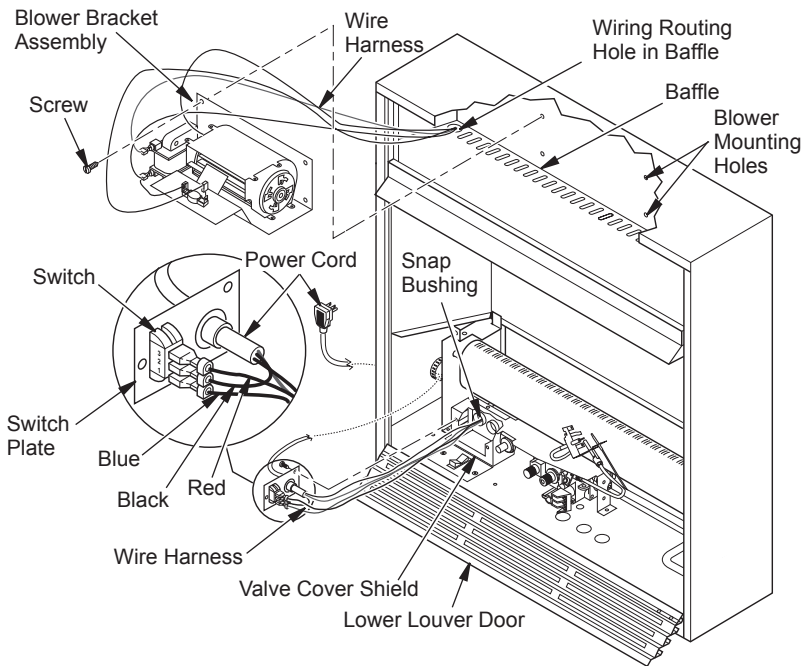
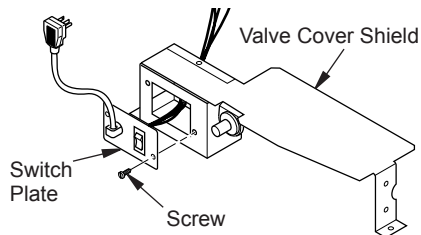

Figure 16 - Installing Blower Bracket Assembly
Figure 18 - Installing Switch Plate to Valve Cover Shield
3. Note the wire locations on back of AUTO/OFF/ON switch. The terminals on back of switch are numbered 1, 2, and 3. Carefully remove red wire from terminal 3 and blue wire from terminal 1. Black wire can remain on middle terminal 2 (see Figure 16, page 15).
5. In top of the fireplace cabinet, locate the four mounting holes on the outer casing. Align these four holes with those on the blower bracket assembly. Attach blower bracket assembly to the outer casing with 4 #10 screws provided (see Figure 16, page 15).
6. Route the wire harness through the hole in left side of baffle. Pull wire harness through lower opening on the side of the valve cover shield (see Figure 16, page 15).
7. Insert the 4 wire harnesses into one of the round holes in the rear of the valve cover shield and through the rectangular hole in the front of shield (see Figure 16, page 15).
9. Install the switch plate on the valve cover shield with 2 #10 screws provided (see Figure 18, page 15). Route power cord out of the cabinet by inserting it through the bushing on the outer casing (see Figure 16, page 15). Plug fan kit into 120-Volt grounded power supply and test operation.